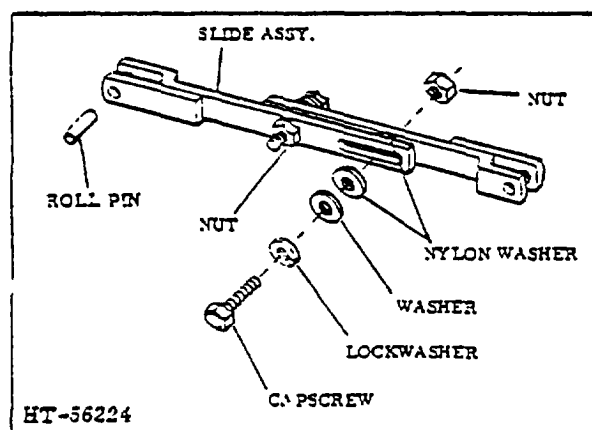

Figure 4. Brake Self-Adjuster Assembly
1. Assemble components as illustrated in Figure 4.